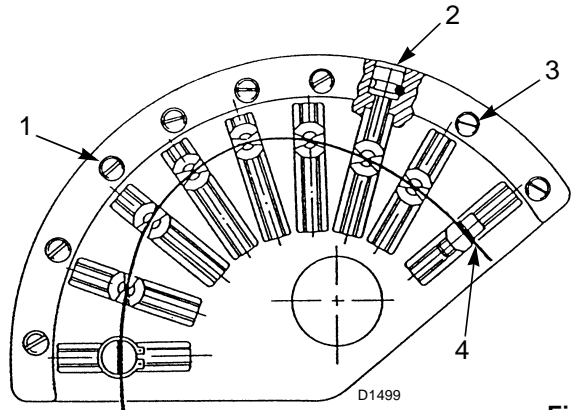

Fig. 36
The starting profile of cam 1)(Fig. 36) must be progressively adjusted by turning the screws 2)(Fig. 36).
For better adjustment repeatability, take care to stop the rotation of the cam unit when the upper bearing that slides on the profile 4)(Fig. 36) is aligned with one of the adjustment screws 2).
Key (Fig. 36)
turn the adjustment screws 2)(Fig. 36) after having loosened screws 3).
- Calibrate the air delivery by adjusting the variable profile cam with the screws 2)(Fig. 36).
- With the optimal adjustment achieved, remember to lock the adjustment screws of the cam profiles by means of screws 3)(Fig. 36).